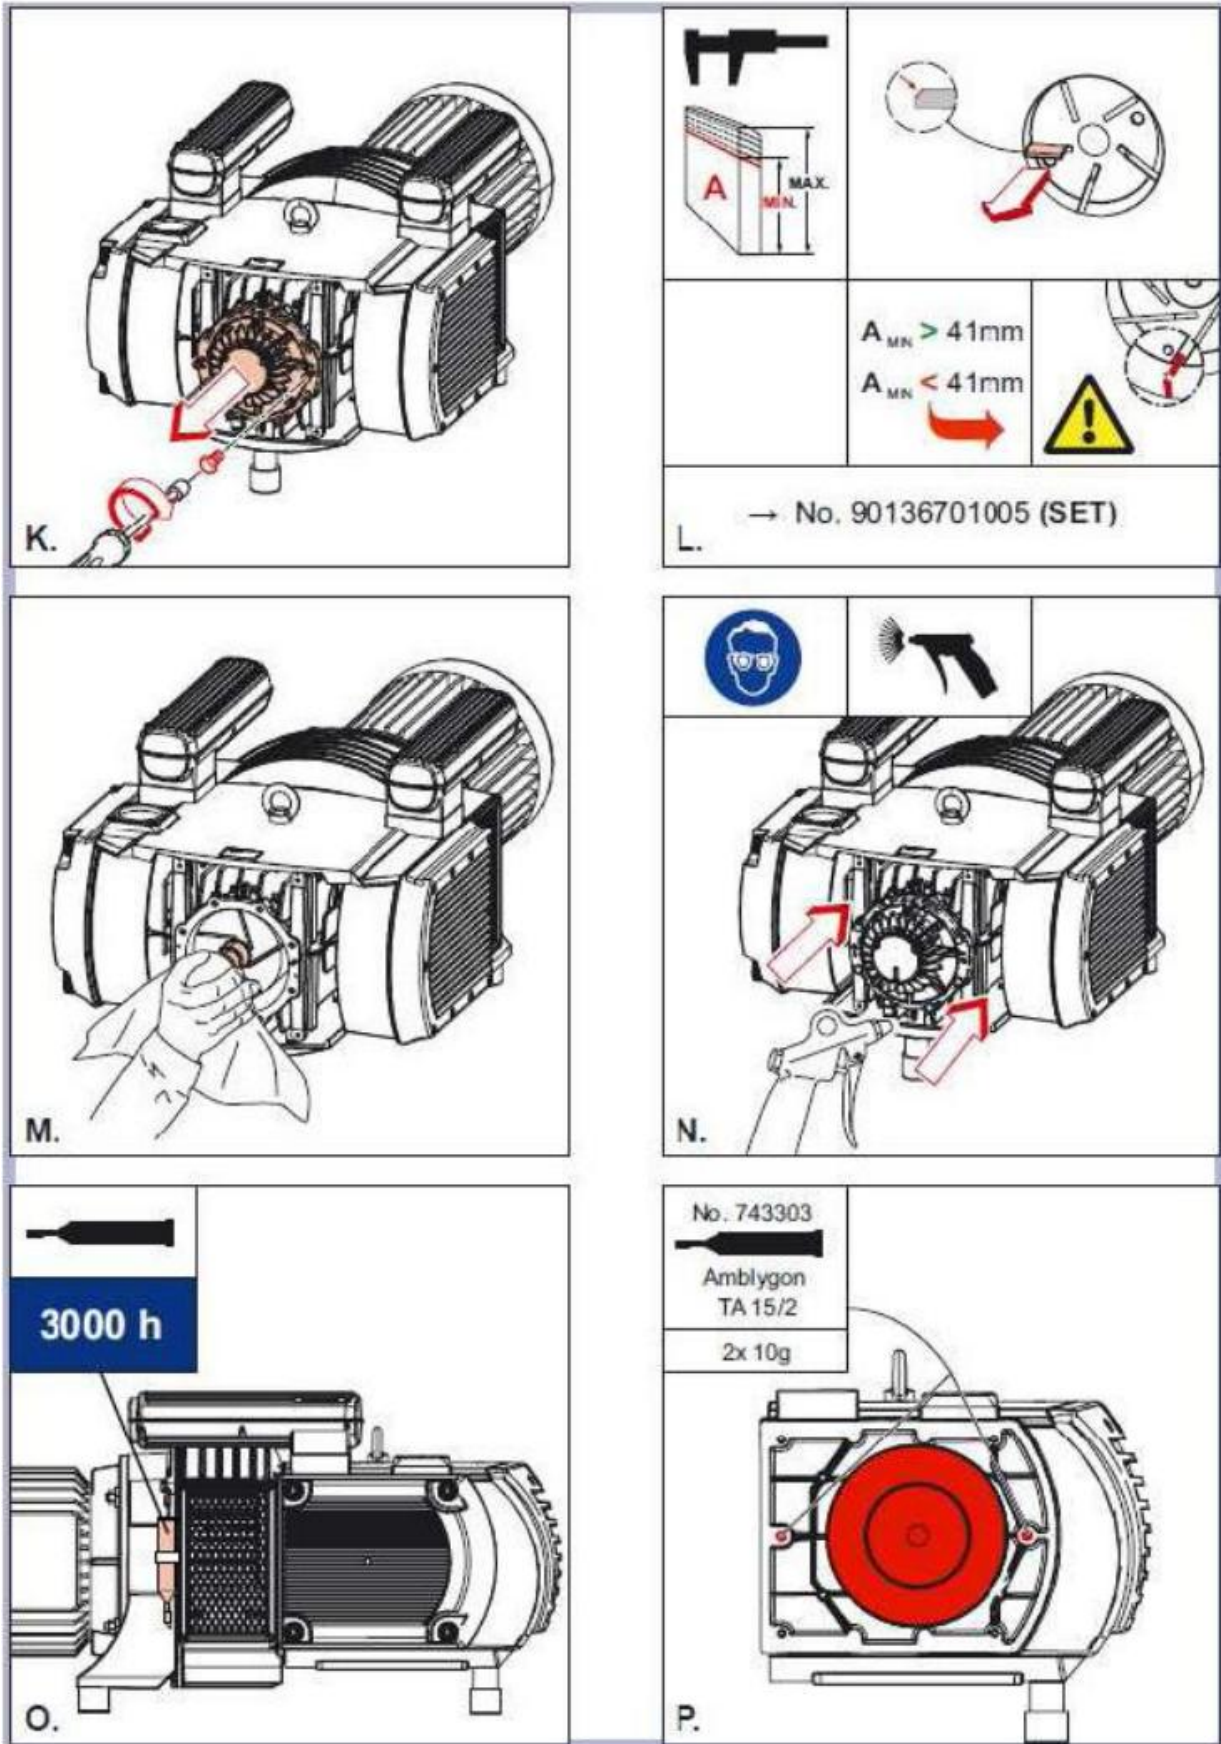

Fig.7.5
- e. After the vacuum pump runs for 3000 h, add 5g grease to two zerks with the grease gun, as shown in Fig.7.5 (O), (P) in (such maintenance shall be conducted in the running state).